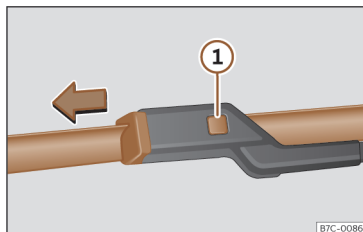

Fig. 184 Changing the windscreen wiper blades
- Press and hold release button >>> Fig. 184 ① and pull gently on the wiper blade in the direction of the arrow.